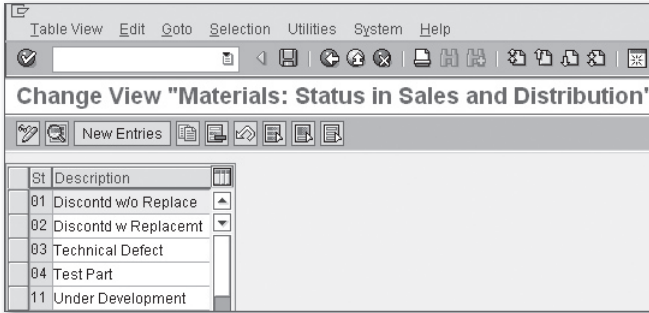

Figure 2.21 Defining Sales Statuses of Materials
The material status (also known as the sales status) of any material determines whether the material will be blocked for any particular sales process. The menu path for defining sales statuses is SAP IMG • LOGISTICS – GENERAL • MATERIAL MASTER • SETTINGS FOR KEY FIELDS • DATA RELEVANT TO SALES AND DISTRIBUTION • DEFINE SALES STATUSES. This takes you to the screen shown in Figure 2.21. The steps to customize the material status are below.
1. Select any existing entry. We have selected the first entry (Figure 2.21).